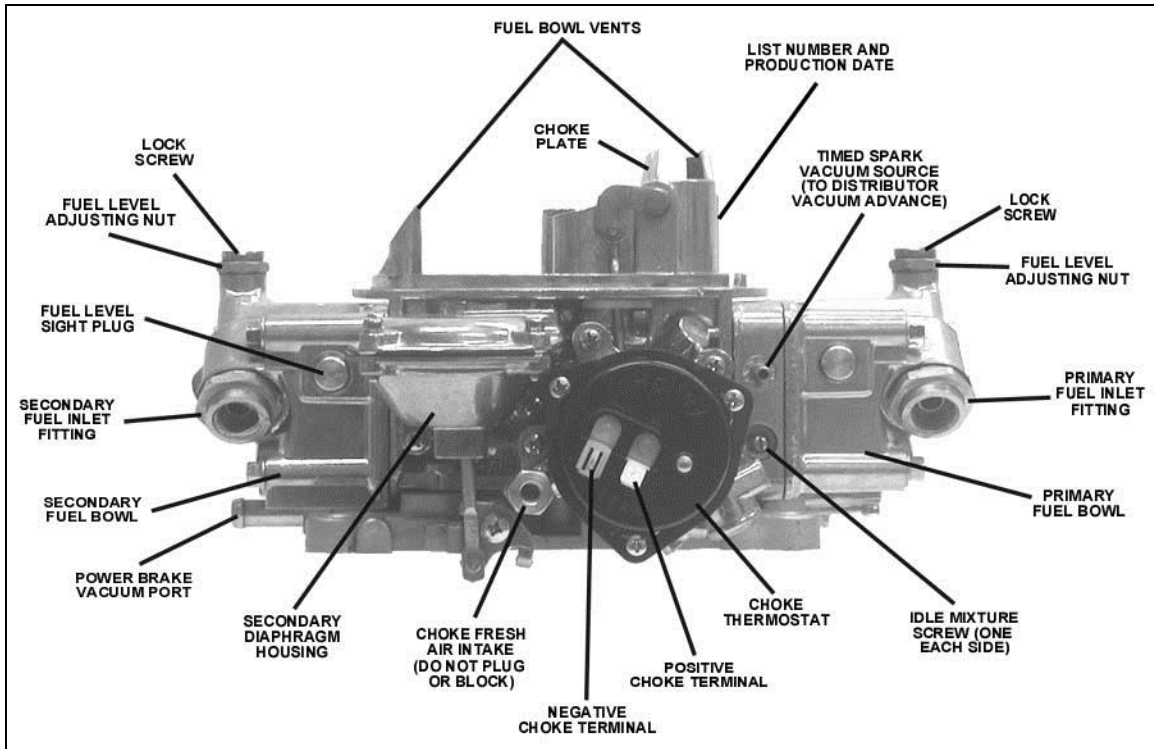

Figure 5 (0-80508S shown)
6. Reconnect the appropriate vacuum hoses to the carburetor, noting the correct port from Figure 5 and 6. Replace any cracked or dry rotted hoses at this time to prevent any vacuum leaks.